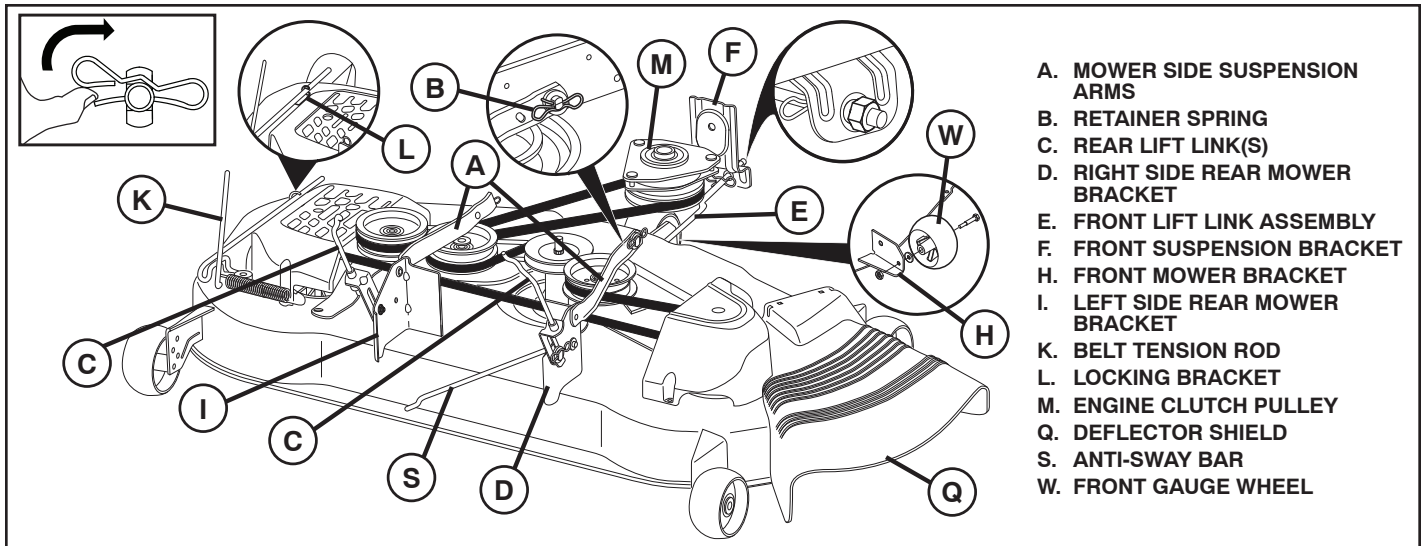

Fig. 25
TO REMOVE MOWER (See Fig. 25)
TO INSTALL MOWER (See Figs. 25 - 37)
9. INSTALL BELT ON ENGINE CLUTCH PULLEY (M) (See Fig. 25 & 37)
- Disengage belt tension rod (K) from locking bracket (L).
- Install belt onto engine clutch pulley (M).